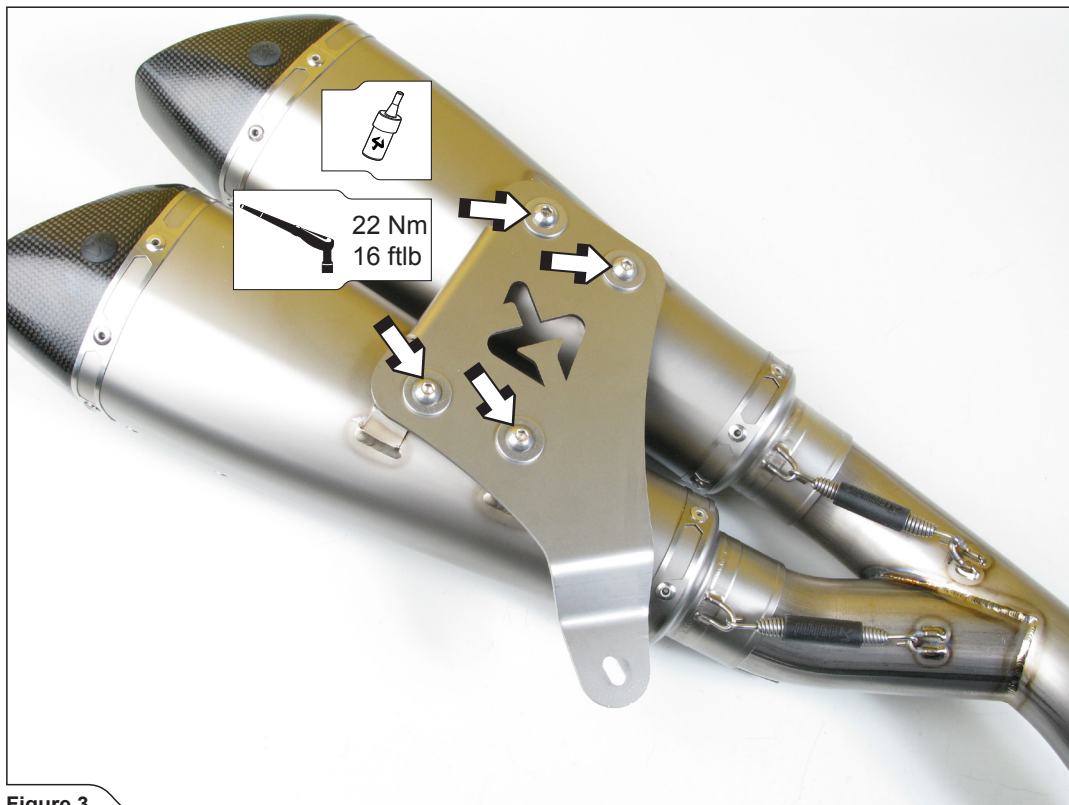

Figure 3
2. Align the mufflers and screw the mufflers' bracket on, using M8x12mm bolts and washers from installation kit (**Figure 3**).